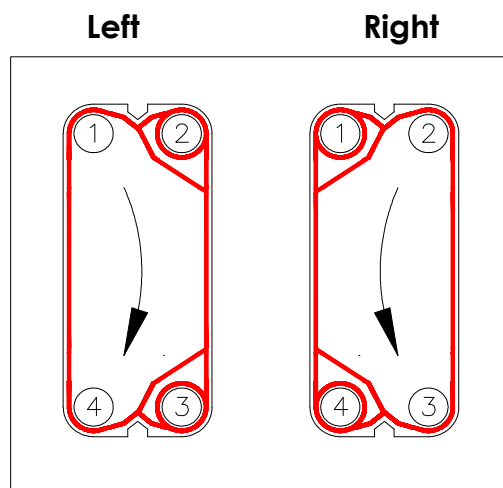

Fig. 32
- On the right plate the fluid folws from connection 2 to 3, or from 3 to 2 (Fig. 32).
- On the left plate the flow is from 1 to 4 or from 4 to 1 (Fig. 32).